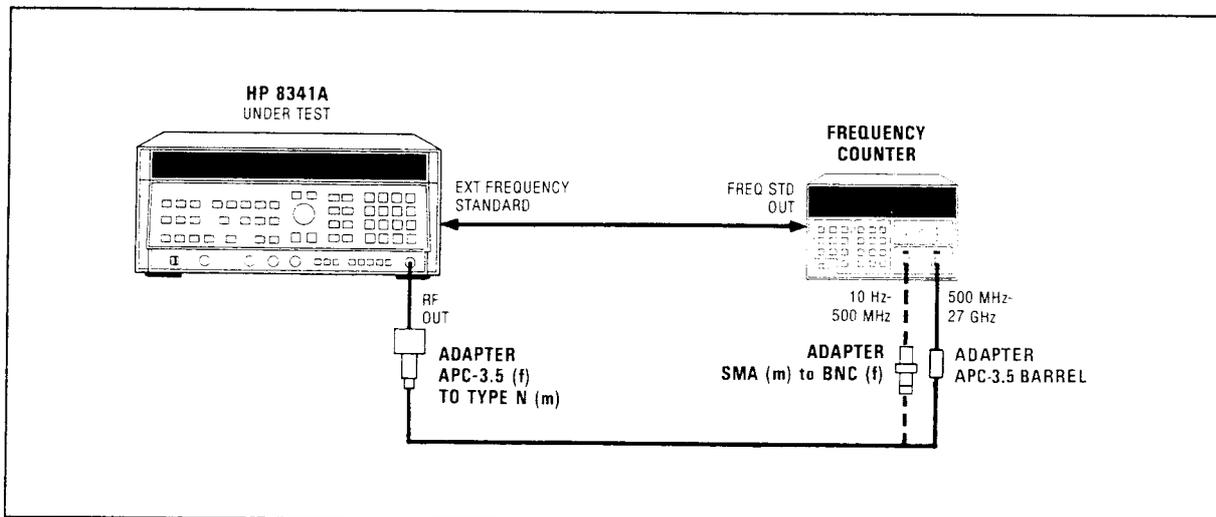

Figure 4-2. Frequency Range Test Setup
1. Connect the equipment as shown in Figure 4-2. Connect the HP 8341A RF Output to the 10 MHz-500 MHz counter input. Allow at least 30 minutes warm up time. The HP 8341A under test and the Frequency Counter use the same frequency standard to eliminate time base error from the measurement. Set the HP 8341A rear panel FREQUENCY STANDARD switch to EXT.